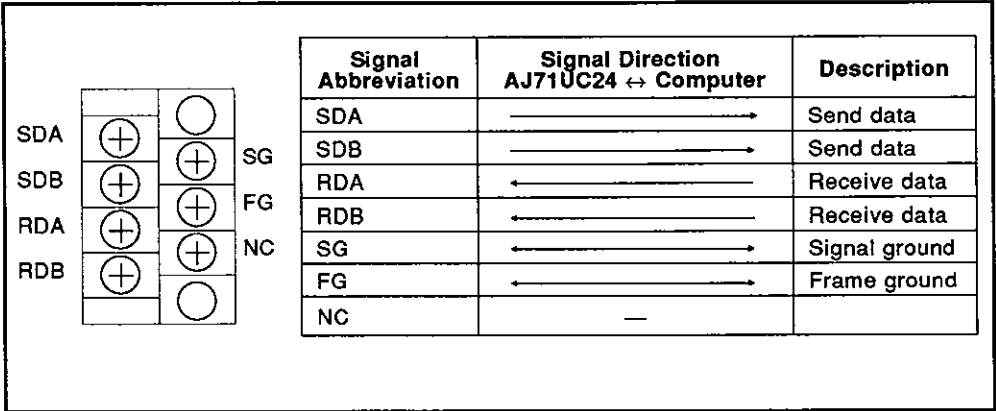

Fig. 12.1 RS-422/485 Interface Specifications
(1) Fig. 12.1 gives the specifications of the RS-422/485 interface used for connection between a computer and the AJ71UC24 and between the AJ71UC24 modules.